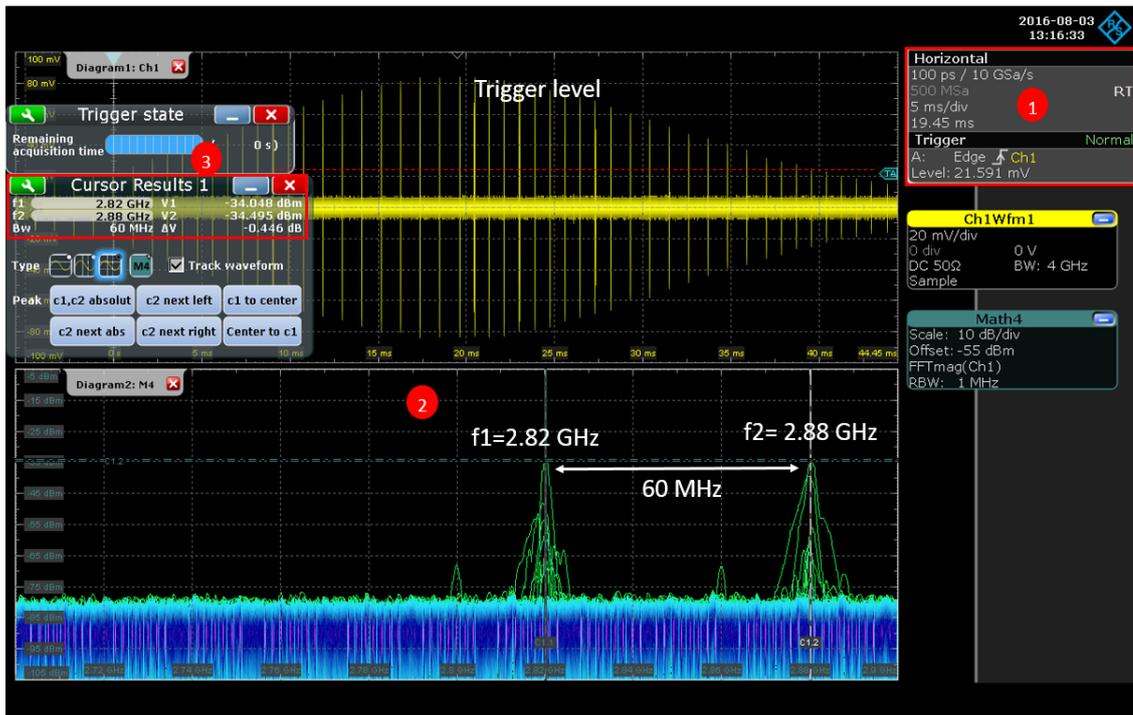

Figure 31: Scope Result
2. In this measurement the Diagram2 window shows two carriers in  $f_1 = 2.82 \text{ GHz}$  and  $f_2 = 2.88 \text{ GHz}$  during a 50 ms acquisition at a span of 200 MHz, see Figure 31. These are the two carrier frequencies between which the RADAR is hopping.